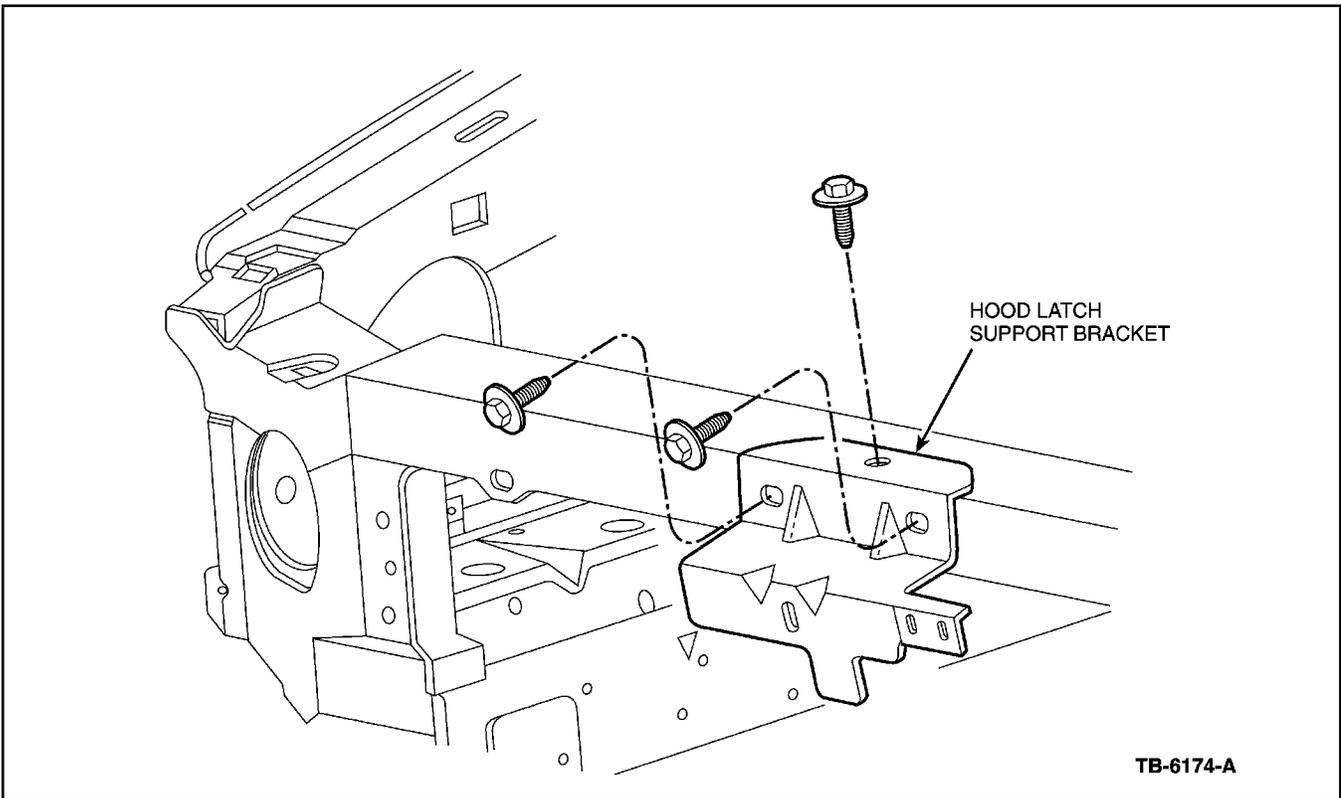

Figure 2 - Article 00-21-2
3. If there is interference between the hood latch and striker, loosen the three (3) fasteners in the hood latch support bracket that attaches it to the radiator support (one on the top side and two on the forward side) (Figure 2).
6. Secure all three (3) fasteners holding the hood latch support bracket to the radiator support to 12 N•m (9 lb-ft) (Figure 2).